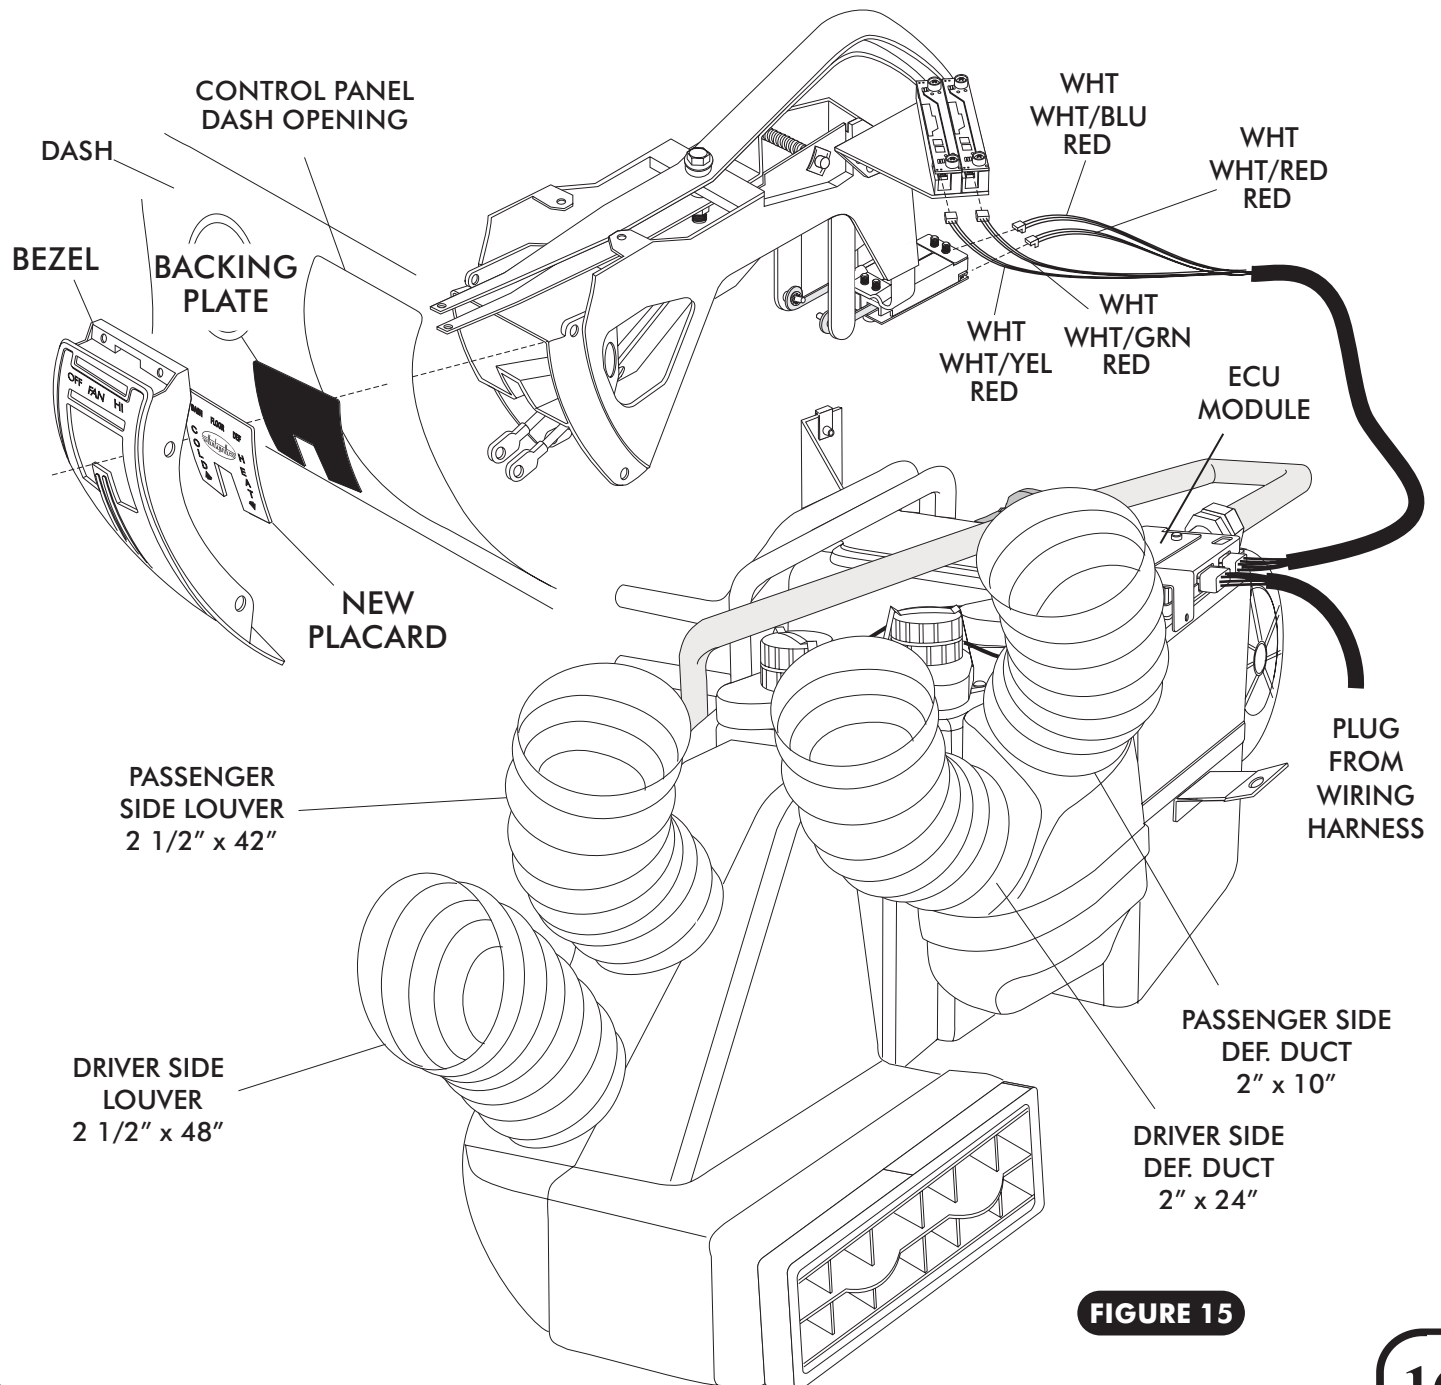

FIGURE 15
- ☐ INSTALL DEFROST DUCTS WITH 2" DUCT HOSE (PASSENGER SIDE) 2" x 10" (DRIVER SIDE) 2" x 24" SEE FIGURE 5 BELOW & FIGURE 15, PAGE 16
- INSTALL DUCT HOSES AS SHOWN IN FIGURE 15 BELOW.
- FROM THE BACK SIDE OF THE DASH, INSTALL THE CONTROL PANEL ASSEMBLY THROUGH THE CONTROL PANEL OPENING IN DASH AS SHOWN IN FIGURE 15 BELOW.
- PLUG THE CONTROL PANEL HARNESS INTO THE ECU MODULE ON SUB CASE AS SHOWN. SEE FIGURE 15 BELOW.